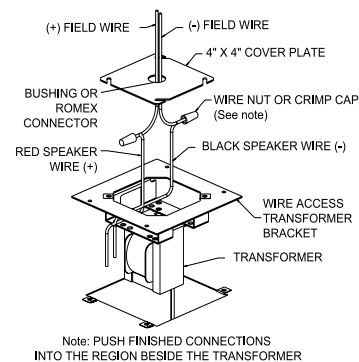

Fig. 4: Alternate Wiring (conduit)
- 2). ALTERNATE WIRING METHOD — IN/OUT CONDUIT (Fig. 4):